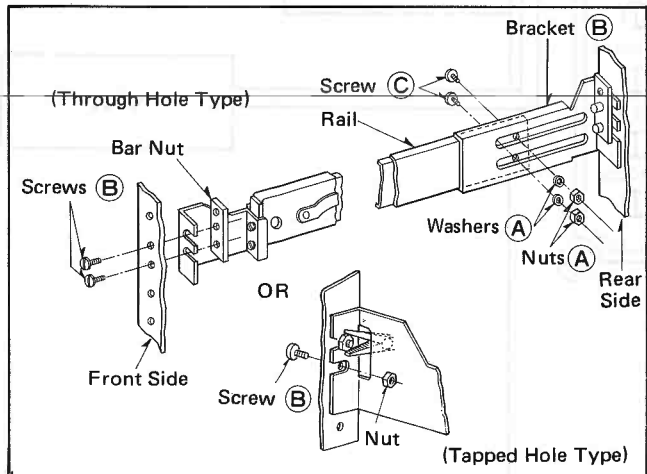

Fig. 6
6. Set the two screws (B) and bar nut temporarily, and insert the bracket (B) to the back of the rack. Fix the rail with two screws (C), two washers (A), two nuts (A). (Fig. 6)